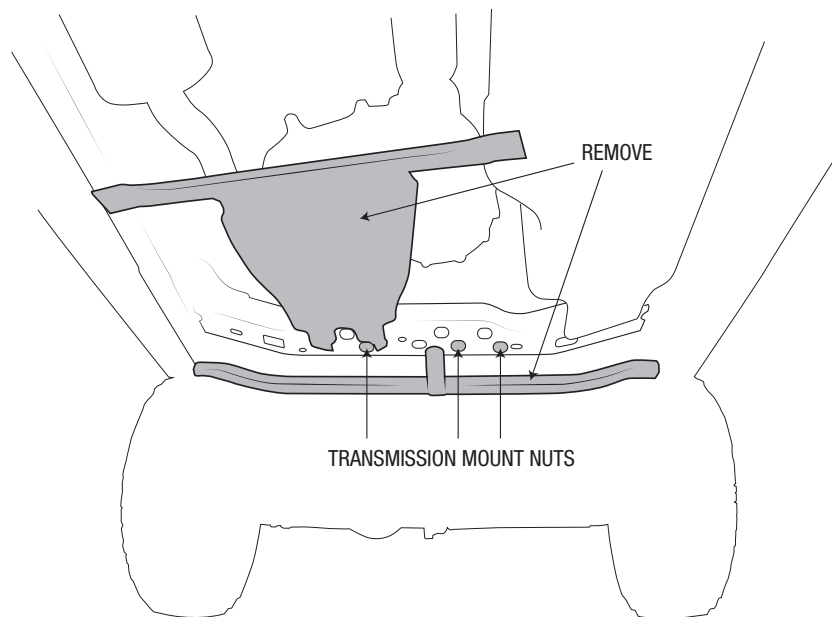

Figure 7
22. Remove the transmission and transfer case skid plates (fig 7).
23. Remove the three (3) transmission mount nuts (fig 7).